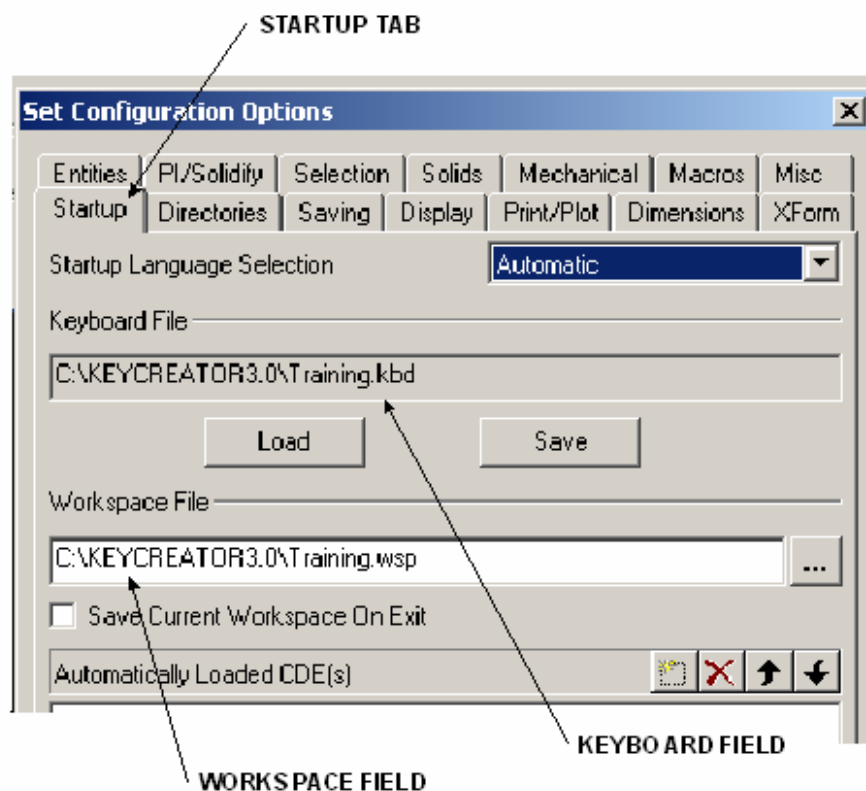

Figure 1
7. Select **Tools, Options**, then select **Startup** tab. (See Figure 1)
8. In the "Keyboard File" field, select "load" then set the path as shown in figure 1
9. In the "Workspace File" field, select the browse button (right side of field) then set the path as shown in Figure 1